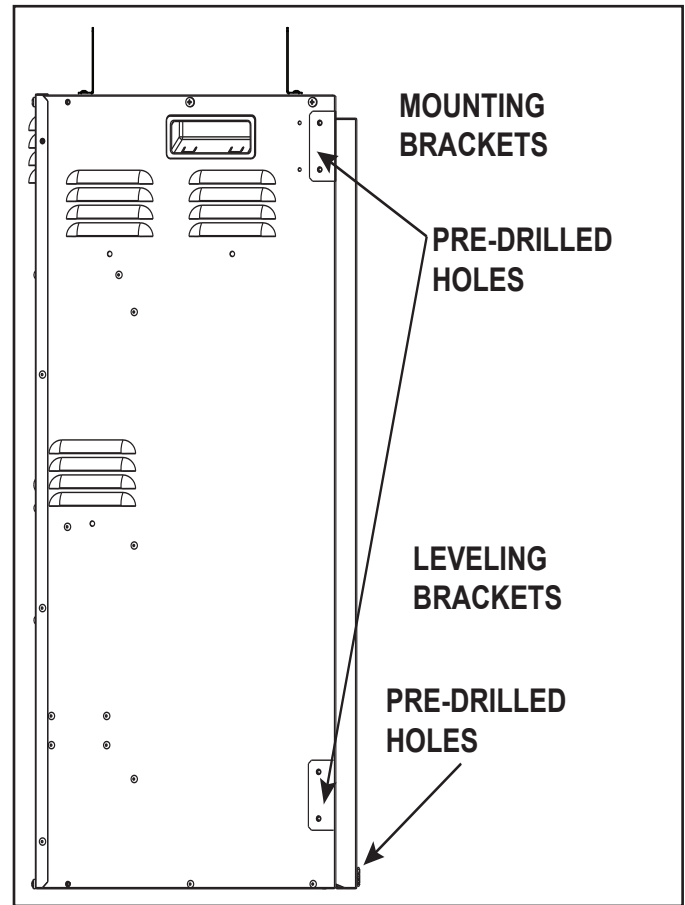

Figure 4.2 Pre-drilled Hole Locations
Install mounting brackets (4) by aligning them with the pre-drilled holes located on the side of the appliance. Use two screws (ST4 x 8) per bracket to secure to the appliance. See Figure 4.2 and 4.3.
Installing leveling brackets (2) by aligning them to the preset holes at the base of the appliance. Use two screws (ST4 x 8) per bracket to secure the appliance. See Figure 4.2.